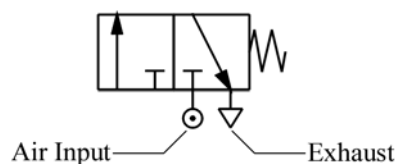

Fig. 17 3/2 directional control valve
3. Arrows "↓ ↘" are used to indicate the flow direction of air current. If the external port is not connected to the internal parts, the symbol "⊥" is used. The symbol "⊙" underneath the square represents the air input, while the symbol "▽" represents the exhaust. Fig. 17 shows an example of a typical pneumatic valve.